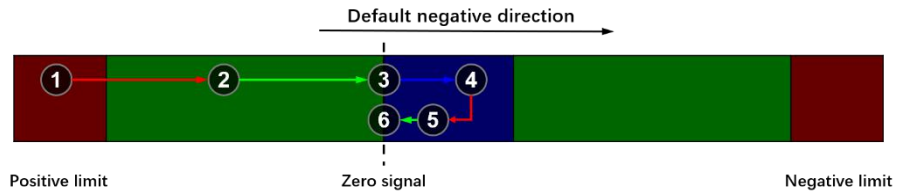

Figure 15.15.5
- ①→②: Workbench accelerates to returning speed in negative direction.
- ③→④: Workbench enters zero signal area and decelerates to crawl speed.
- ⑤→⑥: Workbench stops at side of zero signal area, if Z-phase is selected, workbench stops at Z-phase signal.
⑦:
- Zero positive-edge mode, as shown in Figure 15.15.5: